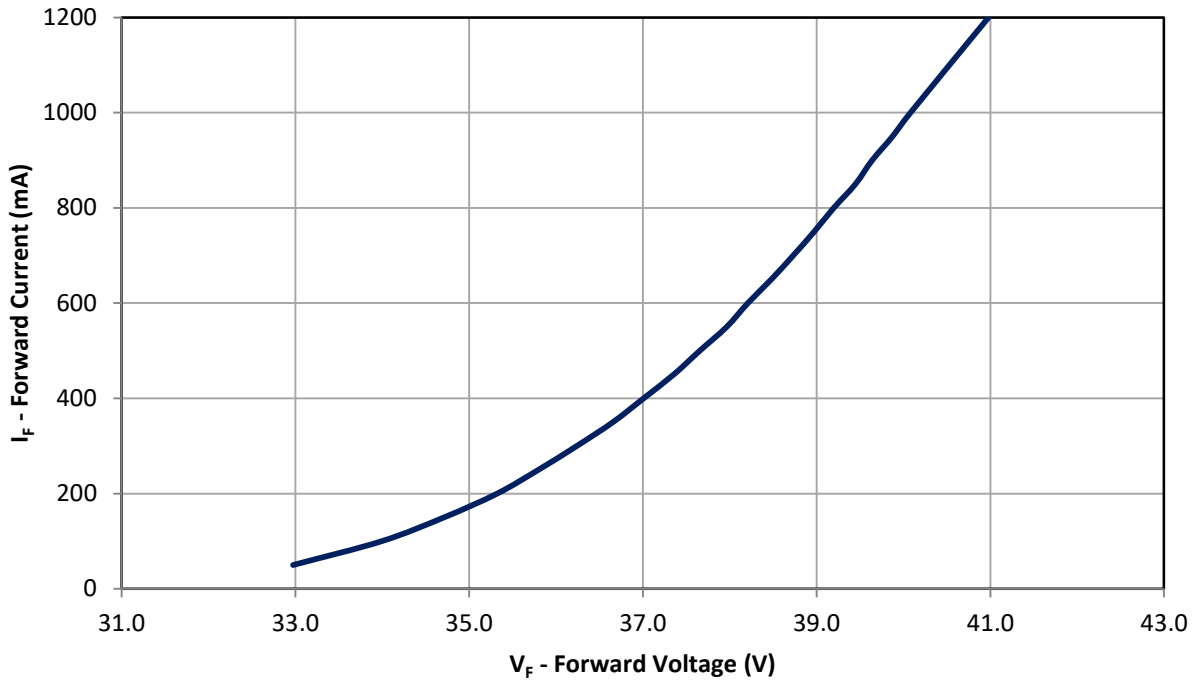

Figure 10: Typical forward current vs. forward voltage @  $T_c = 25^\circ\text{C}$ .
- Maximum DC forward current (per die) is determined by the overall thermal resistance and ambient temperature. Follow the curves in Figure 10 for current derating.
Note for Figure 10: